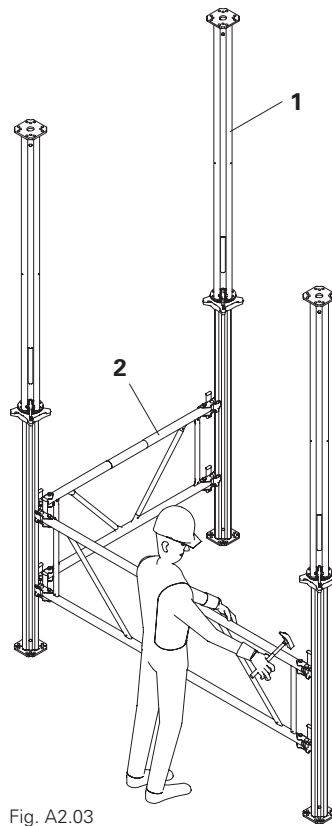

Fig. A2.03
Always mount the Frames MP MRK (2) on the MULTIPROP MP (1) in such a way that the wedge can be hit into position with the hammer from top to bottom. (Fig. A2.03)